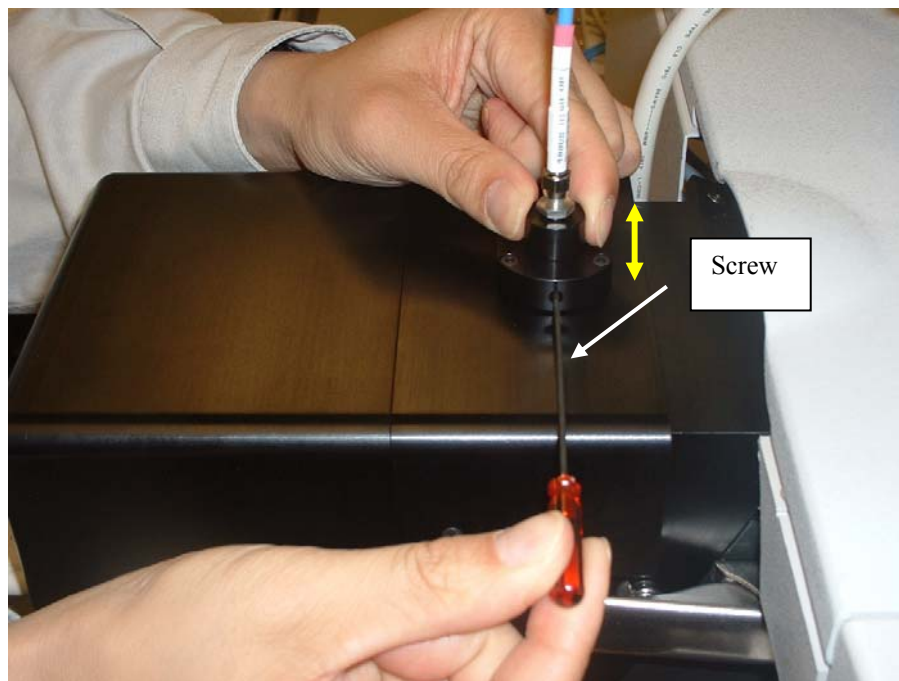

Fig. 8-1. Adjusting the laser focusing by moving the fiber optic connector up or down.
3. Push the fiber optic connector down about 1 or 2 mm (Fig. 8-1).